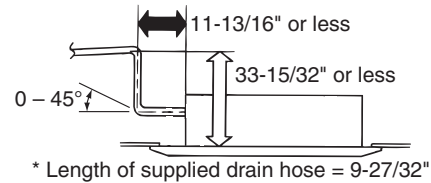

Fig. 3-65
- In cases where it is necessary to raise the height of the drain piping, the drain piping can be raised to a maximum height of 33-15/32" above the bottom surface of the ceiling. Under no conditions attempt to raise it higher than 33-15/32" above the bottom surface of the ceiling. Doing so will result in water leakage. (Fig. 3-65)